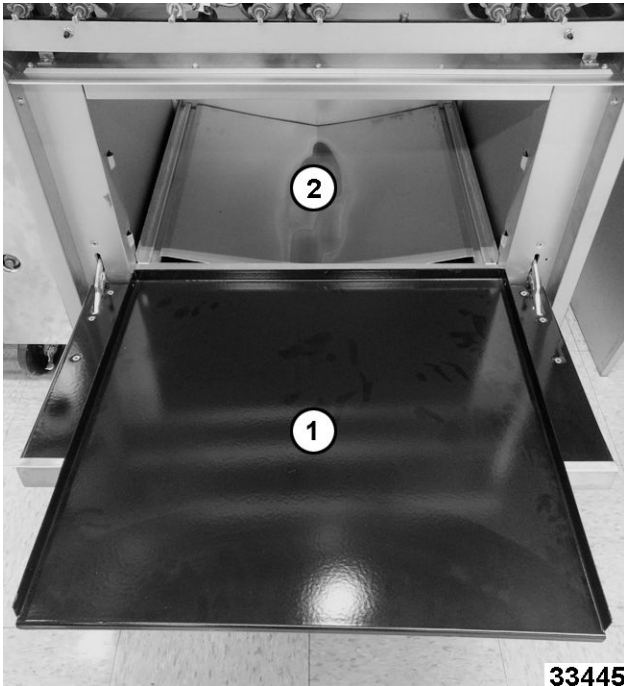

Fig. 11
2. Lift cavity bottom panel (1, Fig. 11) and slide out.
3. Remove V baffle (2, Fig. 11).